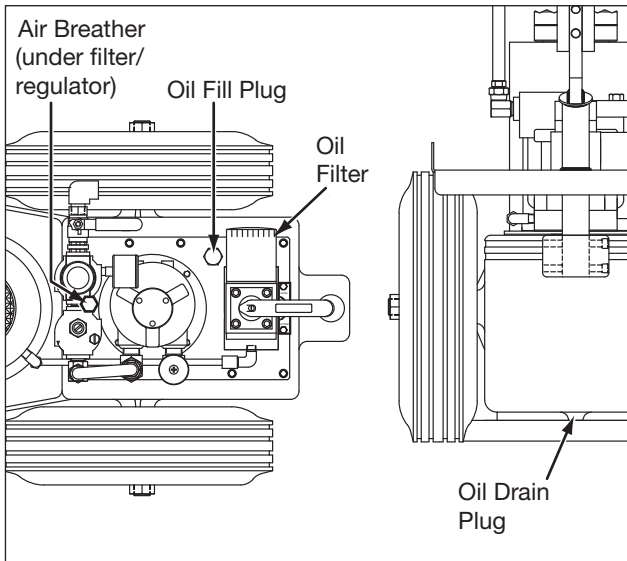

Figure 6, Oil Change
6.2 Changing the Oil (See Figure 6)